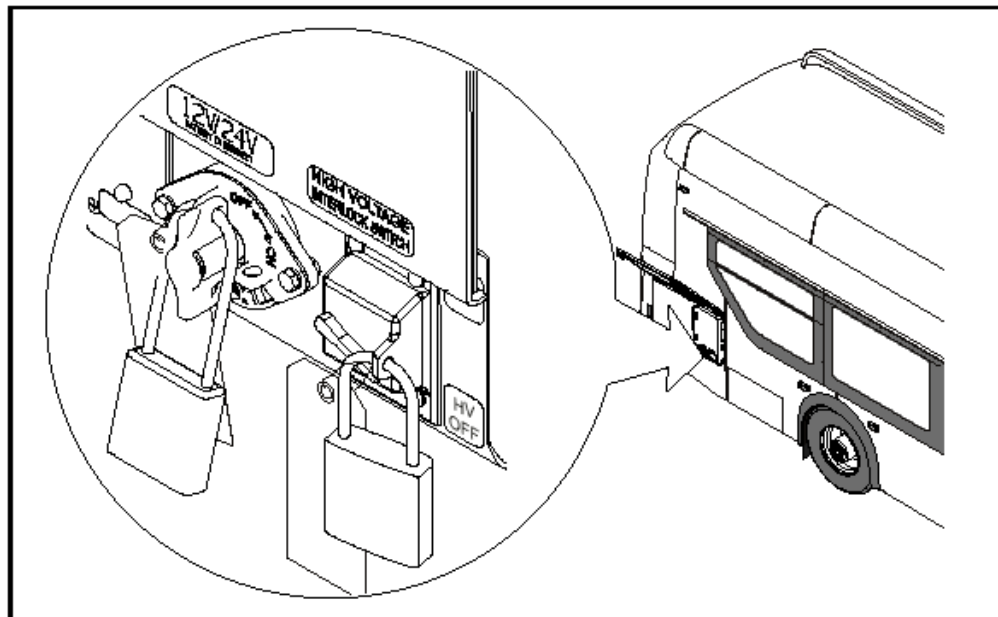

Figure 1: Lockout tagout location reference
- 1.3. Lock and Tag the electrical system of the bus out and retain the key. See Figure 1.